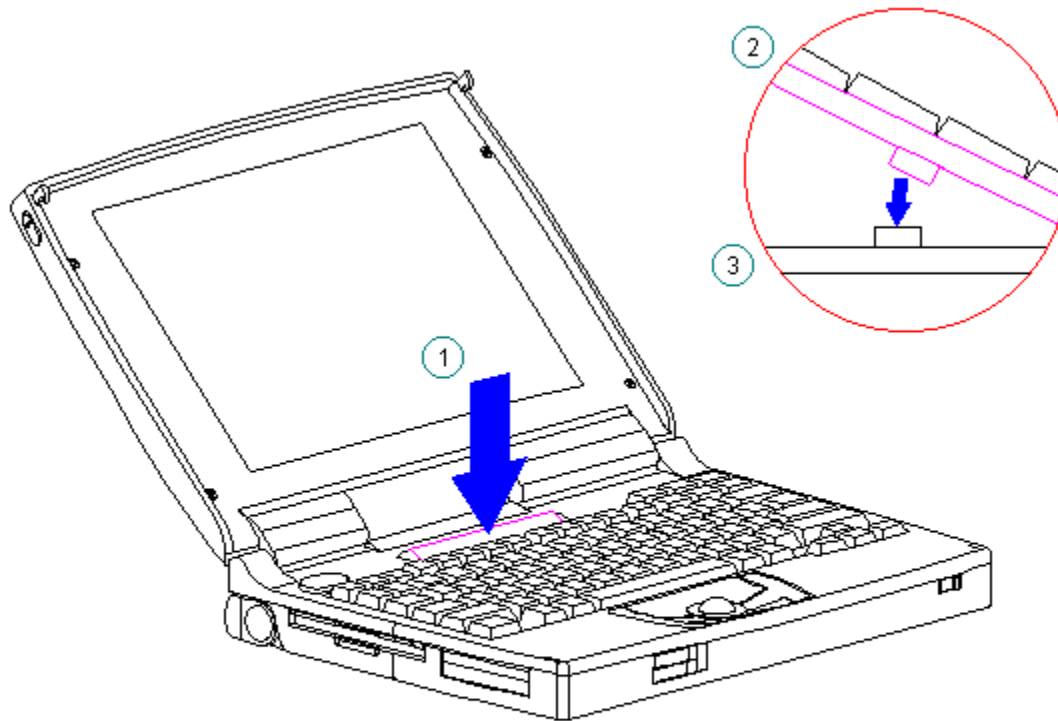

Figure 5-24. Connecting the Keyboard Assembly Connector
6. Press firmly in the center of the keyboard assembly below the status panel [1] to connect the keyboard connector [2] to the system board [3] (Figure 5-24).